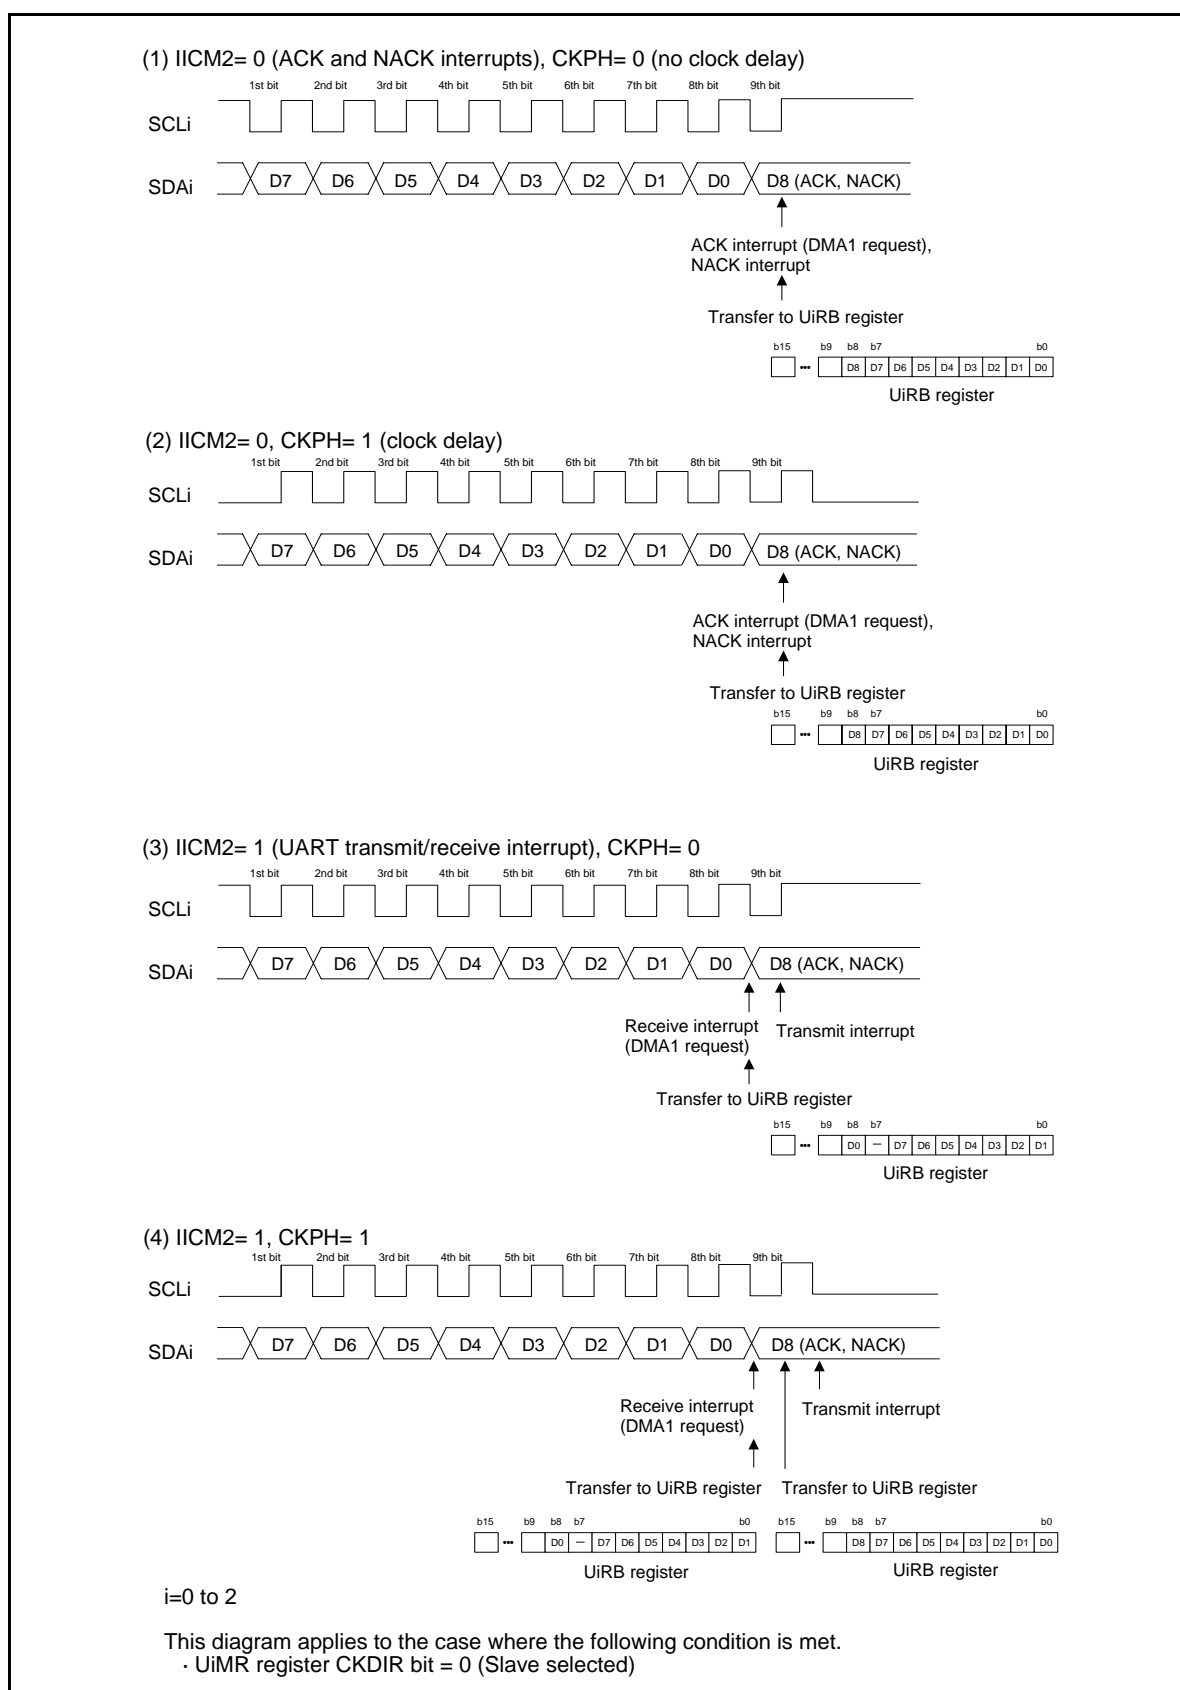

Figure 17.26 Transfer to UiRB Register and Interrupt Timing
6. See **Figure 17.26 Transfer to UiRB Register and Interrupt Timing**.
Data is transmitted/received using a transfer clock like the one shown in Figure 17.26 Transfer to UiRB Register and Interrupt Timing.